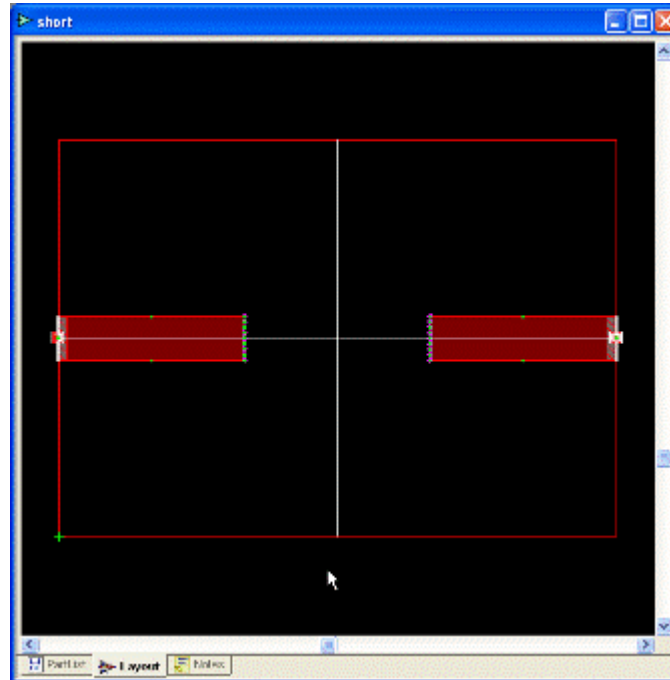

Figure 4
3. The short fixture is the open fixture shown in Figure 3 with the ends of the transmission lines to the DUT input and output reference planes shorted by a row of via holes to ground (shown in Figure 4). The grounded via holes short out the parallel parasitics to leave only the series parasitics.